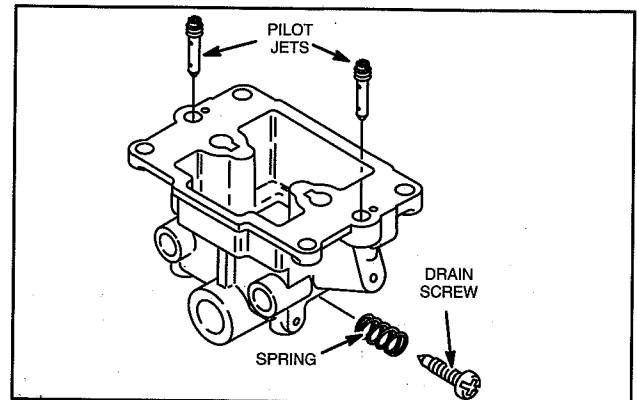

Fig. 45 – Remove Pilot Jets
5. Remove pilot jets, Fig. 45.